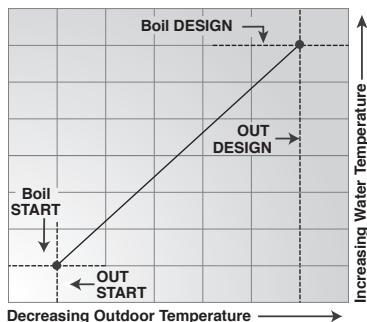

Figure 67. Reset Ratio
2. Attach (1) 12" scale manometer to an upstream bleedle valve on the gas supply pipe to the boiler (Measure point "A" in **Figure 67**).